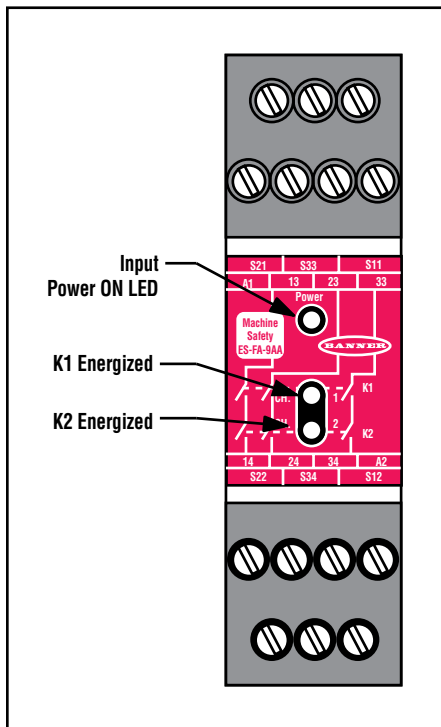
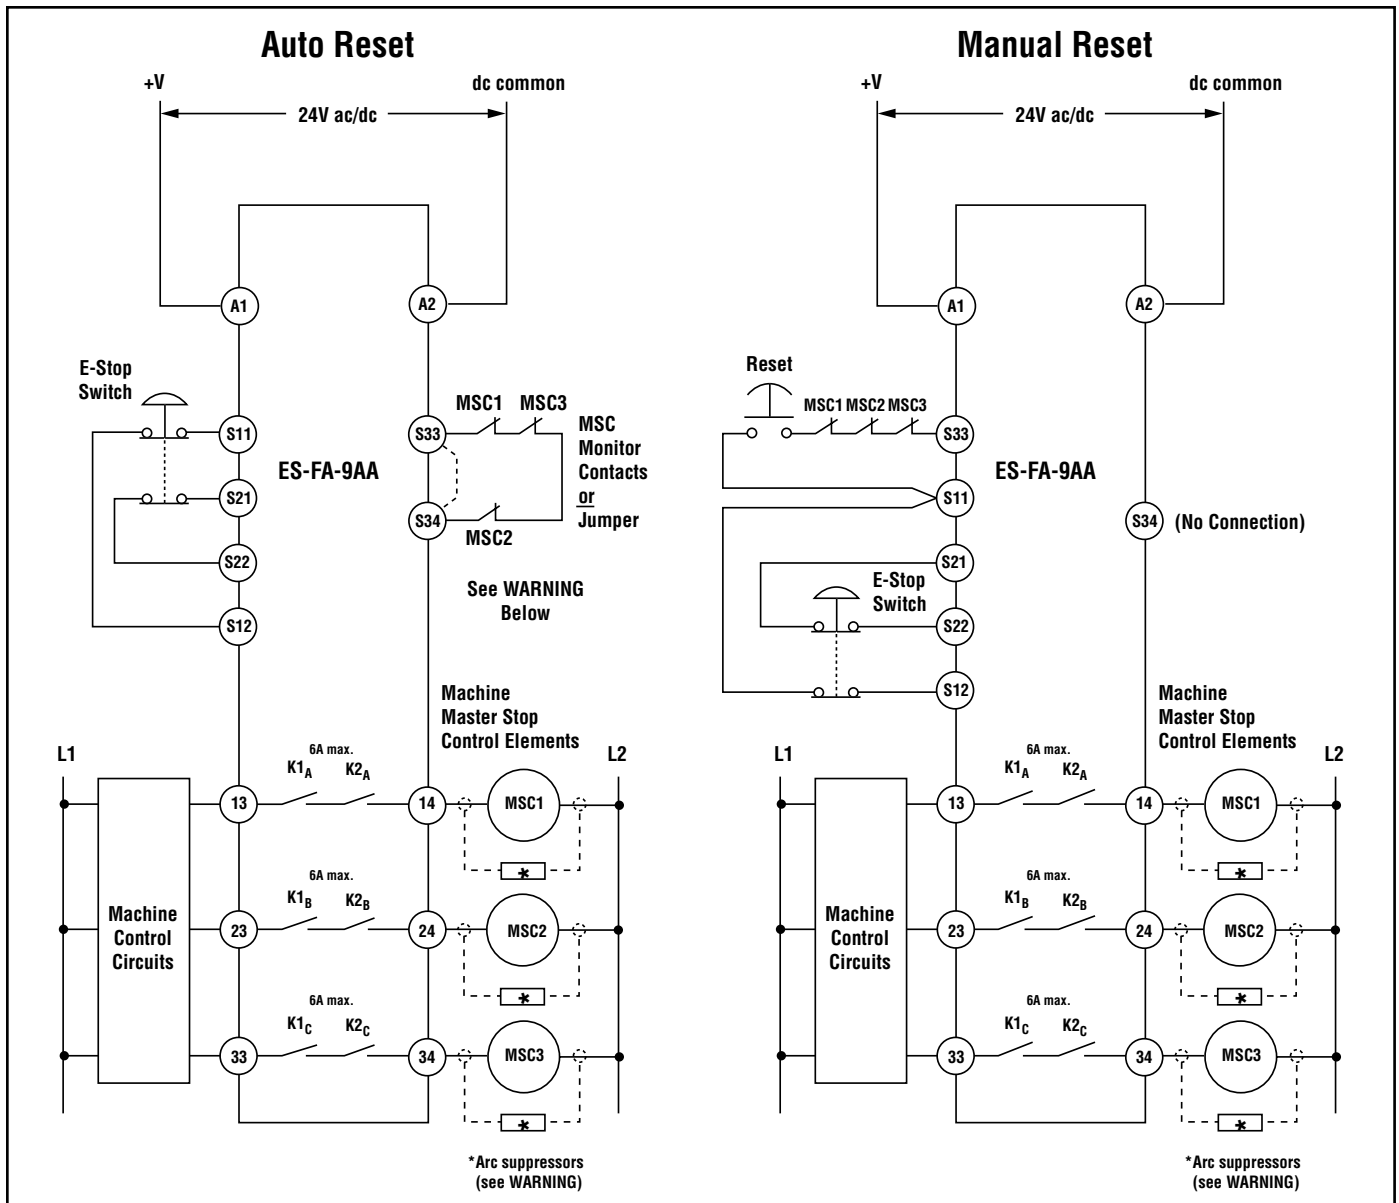
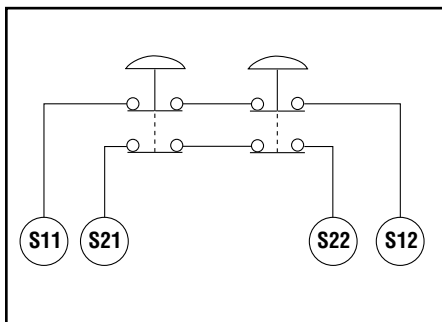

Figure 1. ES-FA-9AA status indicators
Figure 2. Hookup: 2-Channel E-Stop Applications
Figure 4. Series connection of multiple E-stop switches
The purpose of an Emergency Stop Safety Module (E-Stop Safety Module) is to increase the control reliability of an emergency stop circuit. As indicated in Figures 2 and 3, the ES-FA-9AA E-Stop Safety Module is designed to monitor a 1-channel or 2-channel E-stop switch. A 2-channel E-stop switch has two electrically isolated contacts.
The output of the E-Stop Safety Module ES-FA-9AA consists of three redundant output switching channels, each of which is the series connection of two forced-guided relay contacts that are internally monitored (K1 and K2 in Figure 2). If the Module detects a failure, such as a welded output relay contact, all outputs are disabled and cannot be reset. The four switching output circuits of the E-Stop Safety Module are rated for up to 250V ac at up to 6 amps.
The E-Stop Safety Module also provides a necessary reset function. U.S. and international standards require that a reset routine be performed after returning the E-stop switch to its closed-contact position. This prevents the controlled machinery from restarting by simply closing the E-stop switch. The Module may also be configured for automatic reset (see Figures 2 and 3). **The automatic reset mode is useful for some automated processes. However, when automatic reset is used, an alternate means must be established to require a reset routine after the E-stop switch is returned to its closed contact position (see WARNING on page 8).**
The Safety Module has indicators for input power, fault, and output relay contact status (K1 and K2); see Figure 1. There are no adjustments and no user-serviceable parts. See page 10 for information regarding repair service.
As shown in Figures 2 and 3, the E-stop switch must provide contacts which are closed when the switch is in the “armed” position. Once activated, the E-stop switch must open its contacts and be returned to the closed-contact position *only* by a deliberate action (such as twisting, pulling, or unlocking). The switch should be a “positive-opening type,” as described by IEC60947-5-1. A mechanical force applied to such a button (or switch) is transmitted directly to the contacts, forcing them open. This ensures that the switch contacts will open whenever the switch is activated. NFPA 79 section 13.2, Emergency Stop Devices, specifies the following additional switch (“stop control”) requirements:
Connect the poles of the E-stop switches as shown in Figures 2 and 3. The switches are shown in the "armed" position with both contacts closed. Multiple E-stop switches connected to one E-Stop Safety Module must be series connected (see Figure 4 and the warning on page 8).
To satisfy the requirements of Safety Category 4 of ISO 13849-1(EN 954-1), the Master Stop Control Elements must each offer a normally closed, forced-guided monitor contact. One normally closed monitor contact from each Master Stop Control Element is wired in series to the feedback input (S33/S34 auto reset, S11/S33 manual reset; see Figures 2 and 3). In operation, if one of the switching contacts of either master stop control element fails in the shorted condition, the associated monitor contact will remain open. Therefore, it will not be possible to reset the E-Stop Safety Module. If no MSC-monitor contacts are monitored in auto reset, a jumper must be installed between terminals S33 and S34 (see Figures 2 and 3). **It is the responsibility of the user to ensure that any single failure will not result in a hazardous condition and will prevent a successive machine cycle.**
The hookup diagrams (Figures 2 and 3) show a generic connection of the E-Stop Safety Module's redundant output circuits to Master Stop Control Elements. A Master Stop Control Element is defined as an electrically powered device, external to the E-Stop Safety Module, which stops the machinery being controlled by immediately removing electrical power to the machine and (when necessary) by applying braking to dangerous motion (reference ANSI B11.19, section 5.2: "Stop Control"). This stopping action is accomplished by removing power to the actuator coil of either Master Stop Control Element.
The Reset Circuit switch can be any mechanical switch such as a normally open momentary switch, or a two-position key switch. The Reset switch must be capable of reliably switching 12 to 18V dc at 40 to 100 milliamps. As shown in Figures 2 and 3, the Reset switch connects between terminals S33 and S11 of the Safety Module.
The ES-FA-9AA module may be used also with automatic reset. If no MSC-monitor contacts are monitored, a jumper must be installed between terminals S33 and S34 (see Figures 2 and 3). The E-Stop Safety Module will reset (and the outputs energize) as soon as the E-stop switch returns to its closed-contact position.
3. Apply power to the E-Stop Safety Module at terminals A1 and A2 (see Figures 2 and 3). Verify that only the Input Power indicator (Figure 1) is ON. If either of the other two indicators is ON at this point, disconnect the input power and check all wiring. Return to step 2 after the cause of the problem has been corrected.